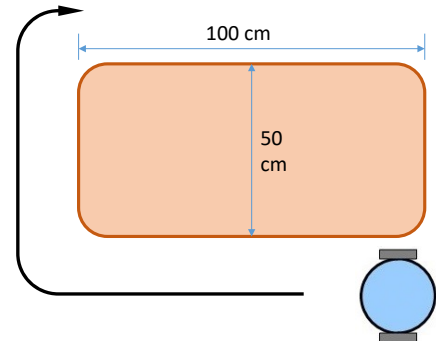

Figure 1: Task of the wheel robot
In this lab, you are required to design and build a wheel robot. You are also asked to navigate the wheel robot to circle around a field (Fig. 1). To complete this task, you will need to learn how to control two direct current (DC) motors, moving the wheel robot forward and making right and left turns. After completing this lab you should be able to: